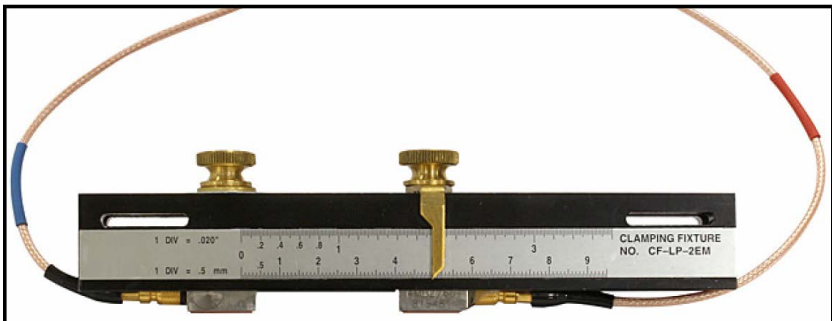

Figure 5: CF-LP Clamping Fixture
**Note:** *Consult Panametrics for instructions on installing the optional CF-LP clamping fixture (shown in *Figure 5* below).*